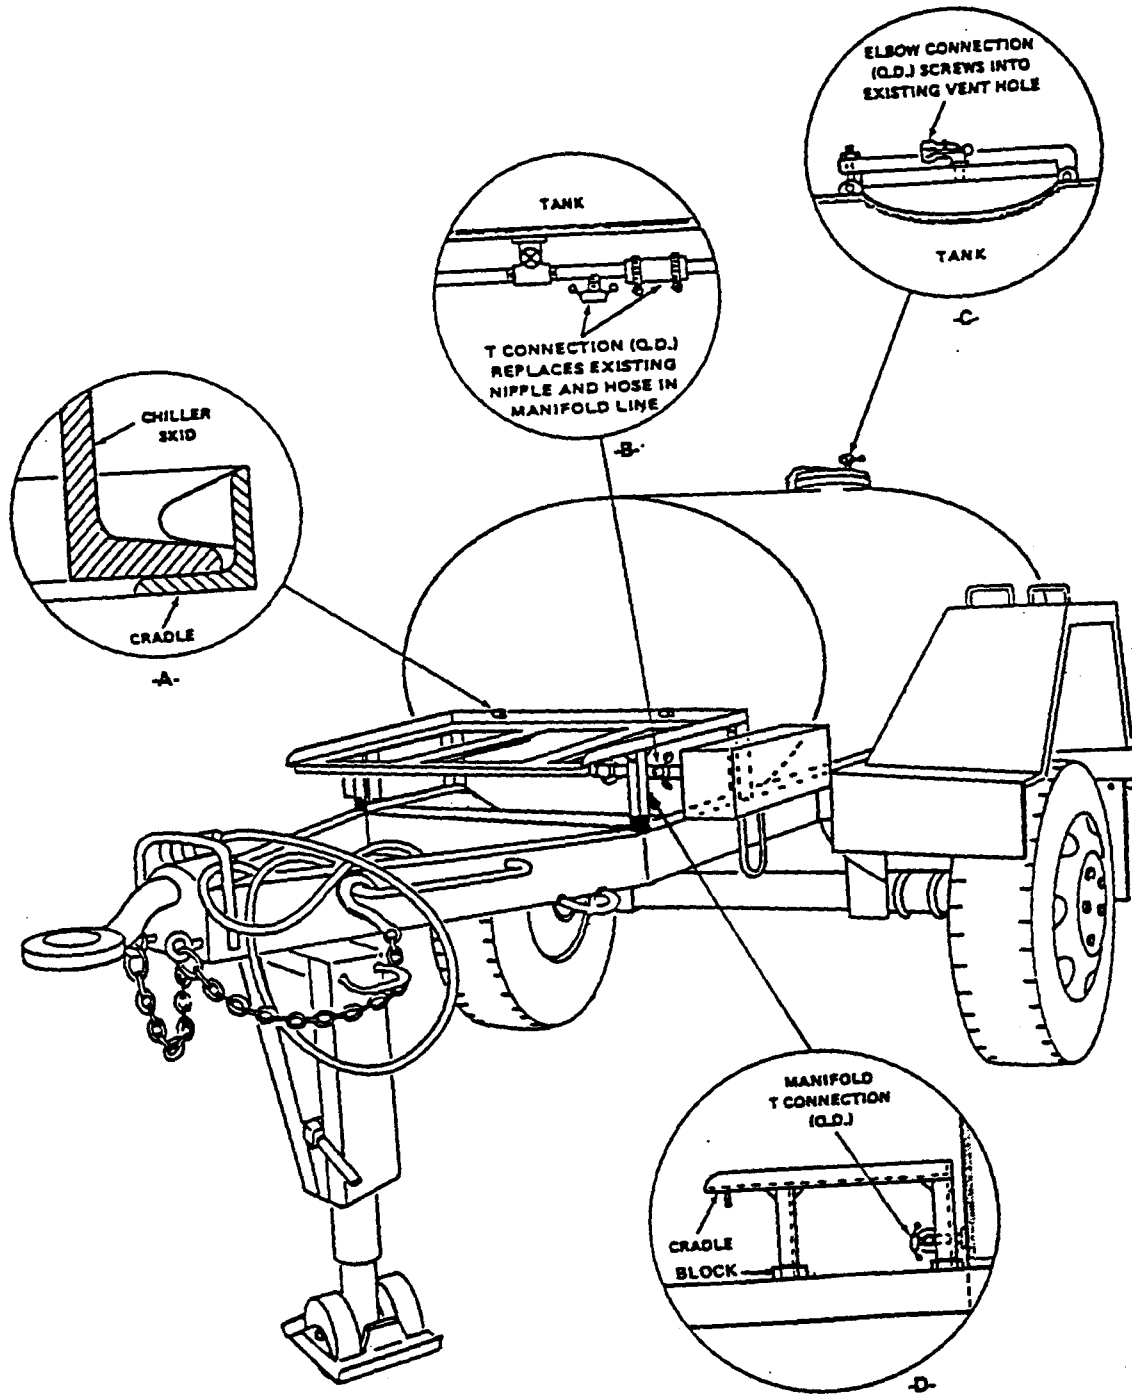

Figure 4-1. Modification of M149A 400 Gallon Trailer Tank for Small Mobile Water Chiller Installation
**4-7. INSTALLATION INSTRUCTION.** The basic water chiller is a skid mounted unit which can be used with various types of stationary or mobile potable water storage containers. To provide a self-contained potable water storage and mobile water chiller unit, a trailer mounting kit is provided for modifying the M149A 400 gallon trailer for water chiller installation, as shown in figure 4-1.
- 2 Screw quick disconnect elbow connection into existing vent hole (view C, figure 4-1) for water recirculating (return) hose.
- 3 Loosen clamp on hose coupling (view B, figure 4-1) and remove hose coupling from manifold pipe.
- 5 Replace hose coupling (view B, figure 4-1) and secure with hose clamps.